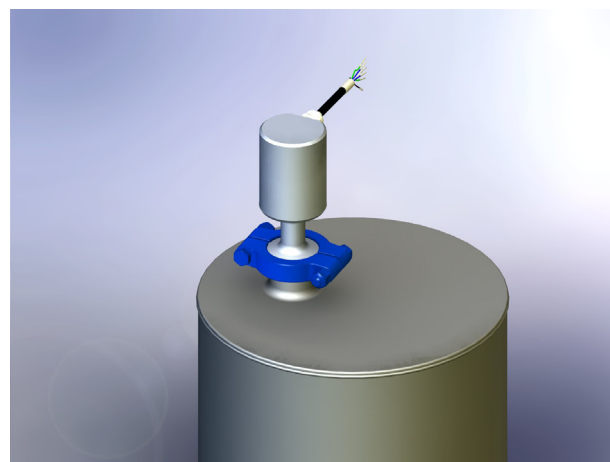

Fig. 4-6: Fastening the BTL with a 1 1/2" tri-clamp
3. Fasten the transducer with a 1 1/2" tri-clamp (see Figure 4-6).